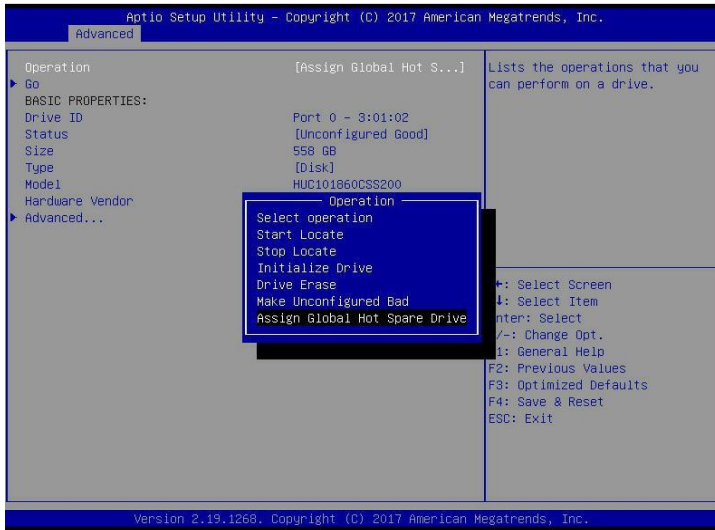

Figure 6-45
- c) Enter the interface shown in Figure 6-45, select Operation, press Enter, then select Assign Dedicated Hot Spare Drive, and press Enter.
✧ Figure 6-45 Operation interface